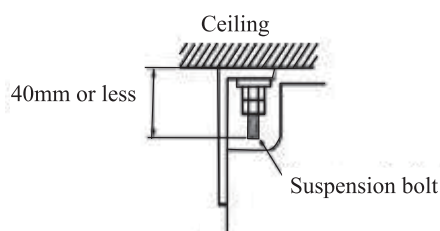

Figure 1-2-1
- Adjust the distance from the unit to the ceiling slab beforehand (Refer to Figure 1-2-1).